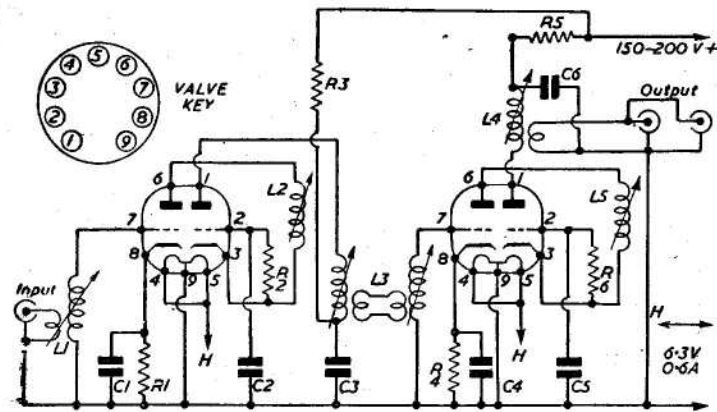

Fig. 2.—In this version transformer coupling is employed.
**COMPONENTS LIST FOR PRE-AMPLIFIER OF FIG. 2**